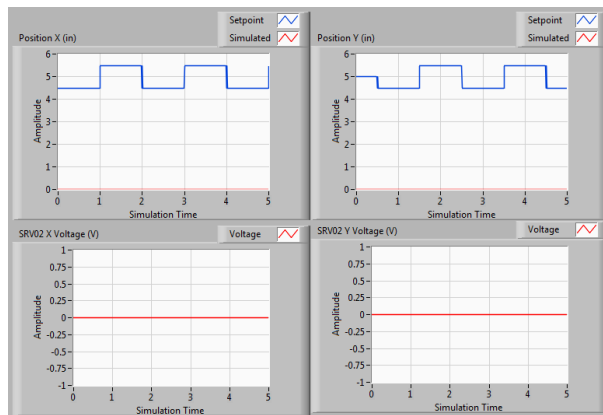

Figure 4.6: Initial simulated response
3. Run the simulation. By default, the simulation runs for 5 seconds. The scopes should be displaying responses similar to Figure 4.6. In the *Position X (in)* and *Position Y (in)* scopes, the blue trace is the setpoint position while the red trace is the simulated position. However, in this case **the simulated position is zero because the kinematics blocks have not been completed.**
- Run the VI. The scopes should be displaying responses similar to Figure 4.6. In the *Position X (in)* and *Position Y (in)* scopes, the blue trace is the setpoint position while the red trace is the simulated position.